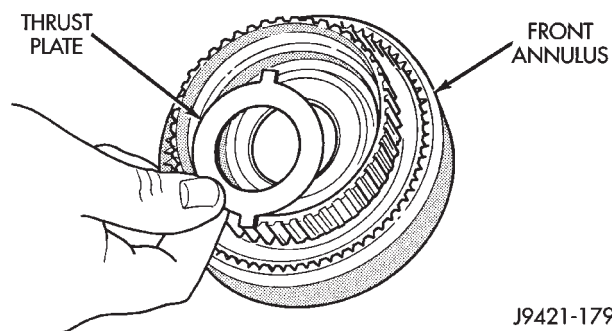

Fig. 160 Positioning Thrust Plate On Front Annulus Support
(18) Position thrust plate on front annulus gear support (Fig. 160). **Note that plate has two tabs on it. These tabs fit in notches of annulus hub.**